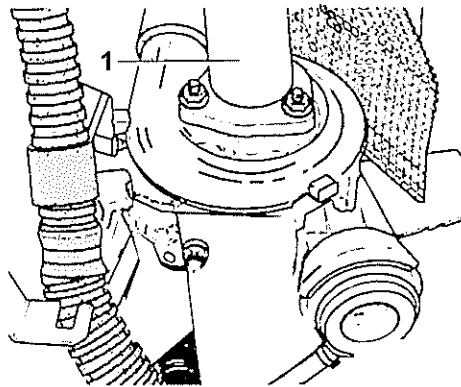

Fig 5 Turbocharger removal
- 11.8 Working from beneath the vehicle, remove exhaust pipe (see Fig 5 (1)).